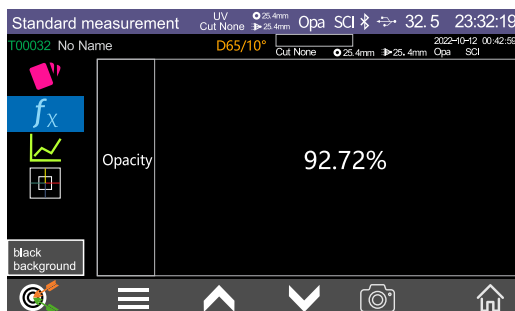

Figure 26 Opacity Measurement interface
- 7、 According to the opacity measurement prompts , perform the operation, and once the opacity measurement completed.the opacity data will displayed in the interface, as shown in Figure 26,27,28